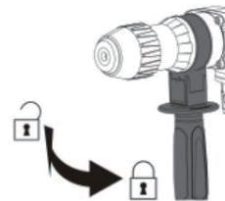

Fig. 6
Turn the auxiliary handle (1) anti-clockwise to loosen the clamp (Fig. 6).